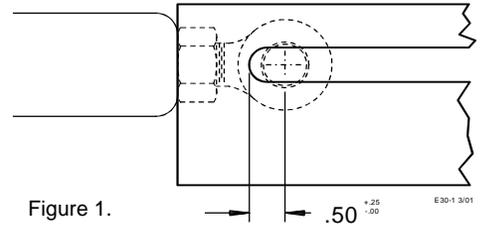

Figure 1.
3. ADJUST Inner Tube by turning counter-clockwise until mounting hole is 1/2" (13 mm) from end of track. See Figure 1.